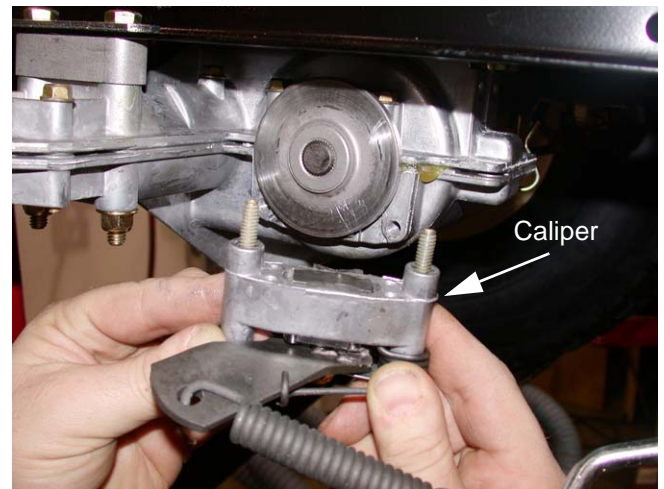

Figure 19.17
19.17. Remove the caliper from the transaxle. The brake actuator arm can now be unhooked from the spring that connects it to the linkage. See Figure 19.17.